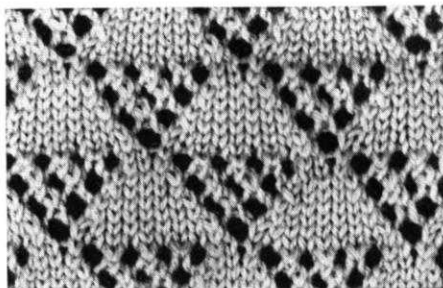

Fig. 29
#### No. 5. LACE PATTERN (V), fig. 29